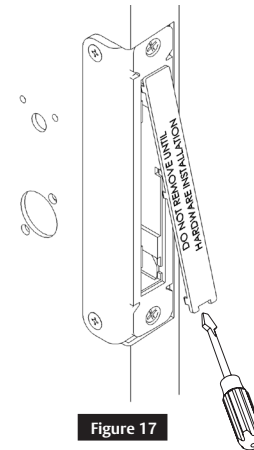

Figure 17
2. Remove mortise filler cap and discard. (Figure 17)